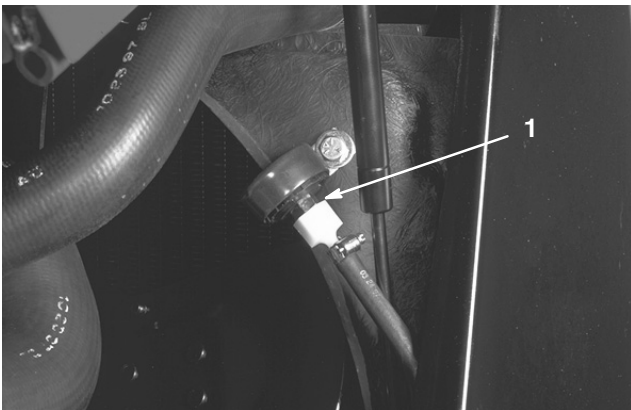

Figure 51
2. Breather is located along right side of radiator (Fig. 51). Clean area around it, unscrew it with a wrench and install replacement.